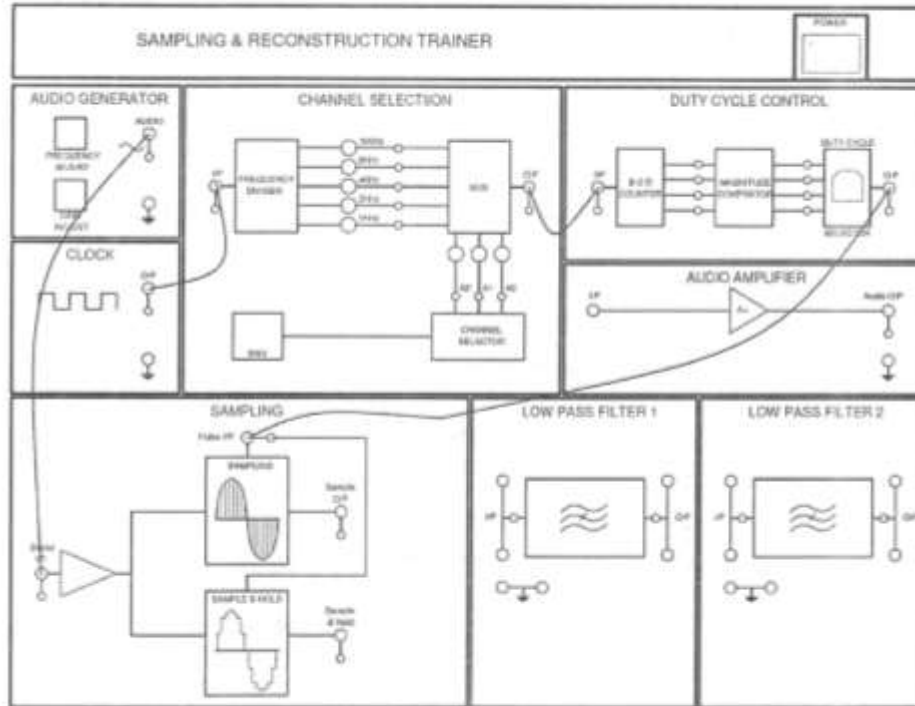

Fig. 1.1
4. Make connections, using 2mm patch cord, as shown in Fig. 1.1